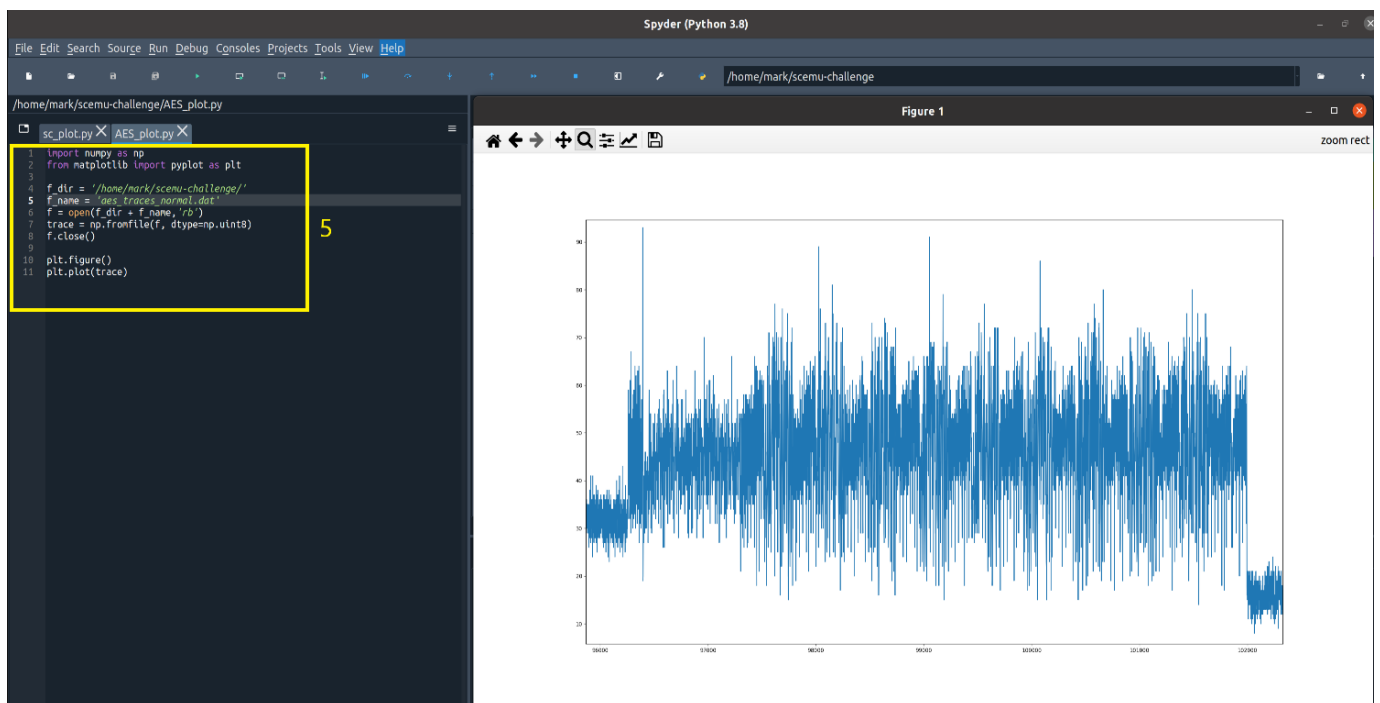

Figure 9: An example plot shows the SC waveform with repeated AES round structure that teams will want to find in emulated SC challenge traces.
2. The data is plotted using Spyder in the local environment as shown in Figure 9. A simple plotting python code is shown for reference purposes, teams are free to use it as a starting point.
The emulated data will be stored in Spyder as an array, so you can perform basic inspections by viewing the variable explorer tab. Next, you can visualize the data. These steps as well as the graph are shown in Figure 9.